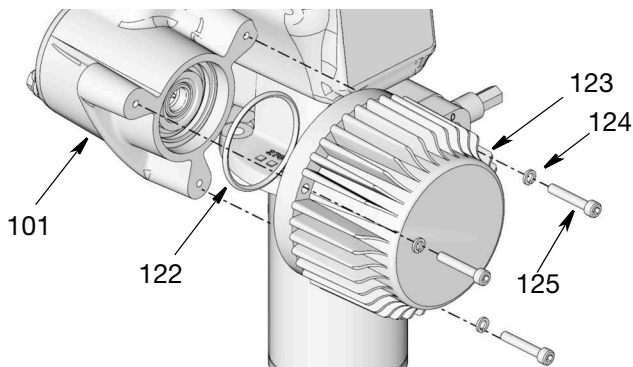

FIG. 22
8. Observe the location of the priming rod (215) and the shovel piston (216) inside of the shovel cylinder (208) (See **Pump Lower Parts**, page 38). If the piston is not located in the lowest position inside of the cylinder:
- a. Remove the screws (125) and washers (124) holding the motor (123) to the gear box housing (101) (FIG. 22).
- d. Verify the o-ring (122) is still in place and correctly seated in the motor (123) (FIG. 22).
- e. Reinstall the motor (123) to the gear housing box (101) using the screws (125) and washers (124). Use a wrench to tighten screws securely. Torque to 12 to 14 ft-lb (16 to 19 N•m) (FIG. 22).